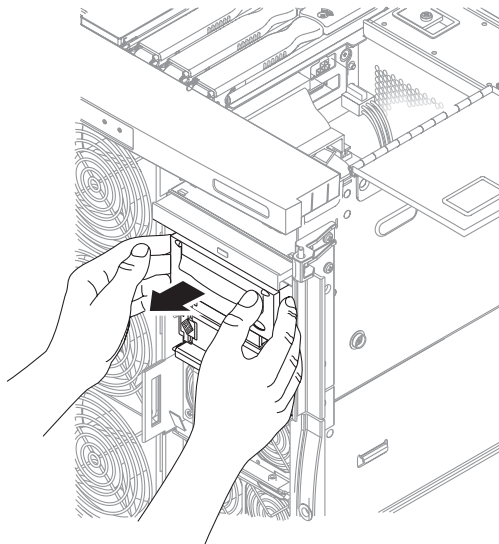

FIGURE 5-9 Sliding the Removable Media Module Out a Short Distance
12. Grasp the metal blade located at the front. Remove the removable media module a short distance from the system so that you can reach the connectors (FIGURE 5-9).
3. Insert the removable media module partially into the system (FIGURE 5-9).